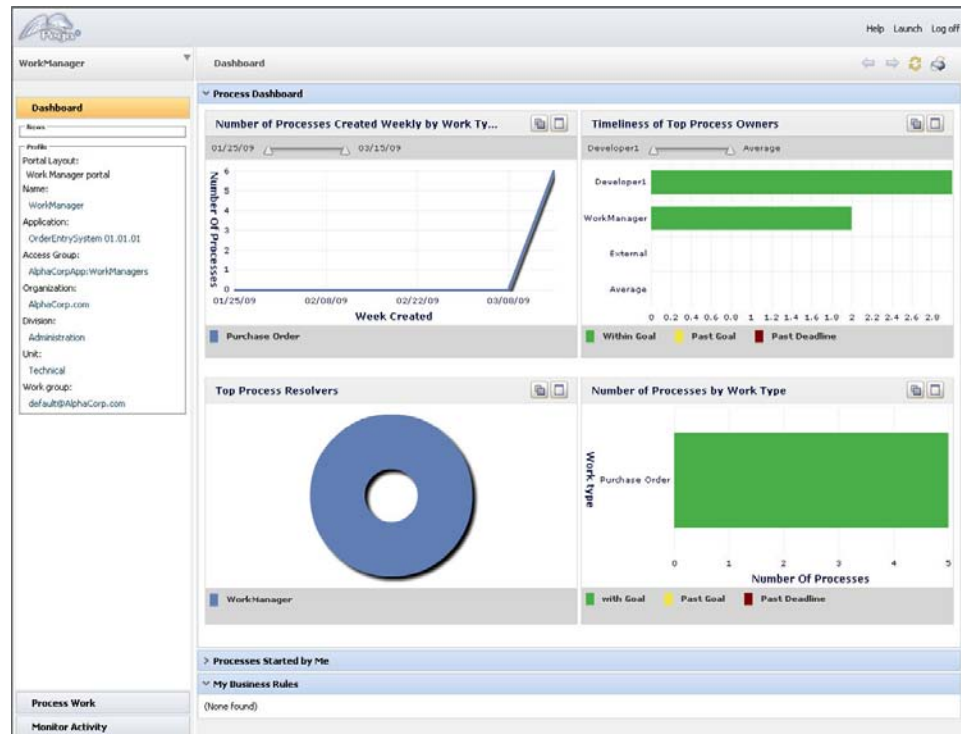

Figure 2-12. WorkManager Portal
1. Log in as WorkManager@AlphaCorp.com with the password **rules** to access the WorkManager portal (Figure 2-12).